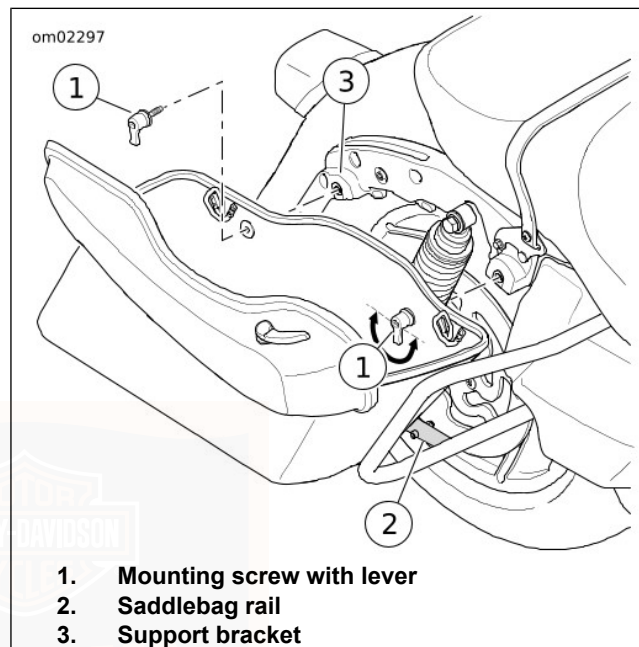

Figure 58. Saddlebag Removal/Installation
2. See Figure 58. Turn the mounting screw levers counterclockwise to remove the mounting screws from the support bracket.
1. See Figure 58. Carefully place saddlebag in position on saddlebag rail. Align the mounting grommets with the support bracket.